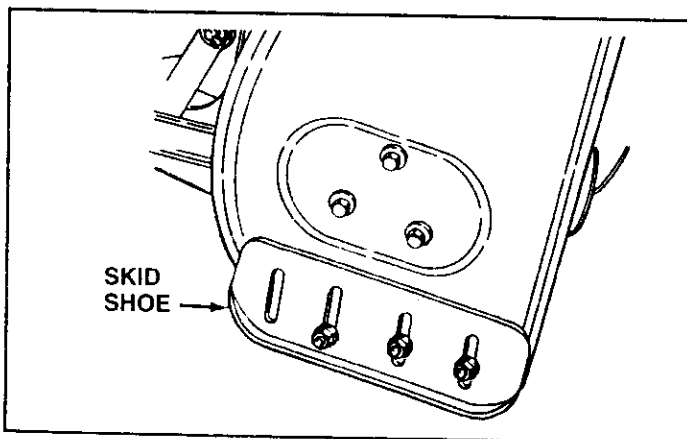

FIGURE 36
- (Refer to figures 36 and 37 on page 20.)
- Raise the snow thrower off the ground and place a block under each end of the scraper plate. Loosen the six hex nuts securing the skid shoes to the housing. Adjust the skid shoes up or down and retighten the nuts securely. Adjust both skid shoes to the same height to keep the housing and the scraper plate level. See figure 36.